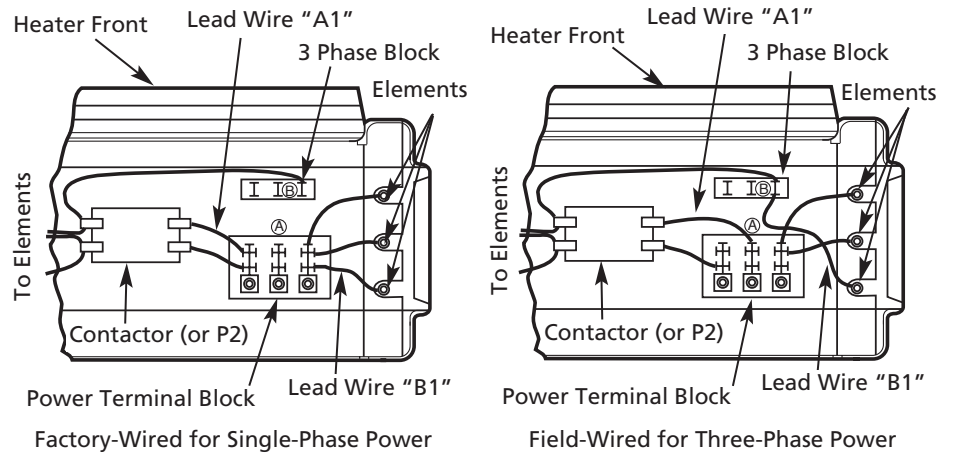

Figure 4a – Wiring Connections for Single-Phase and Three-Phase Power (804T16, 804T17, 804T20, 804T21)
- a. Additional information can be found by looking at the wiring illustrations in Figures 4a through 4c and following the directions under "Control Wiring".
- b. On Models 804T16, 804T17, 804T20, 804T21, 804RZ6, and 804RZ7 (Figures 4a and 4b) move only the two wires marked "A1" and "B1"; do not move or change any other wiring. The element lead wire marked "B1" which is factory connected to the power terminal block must be moved to terminal "B" on the three-phase terminal block.